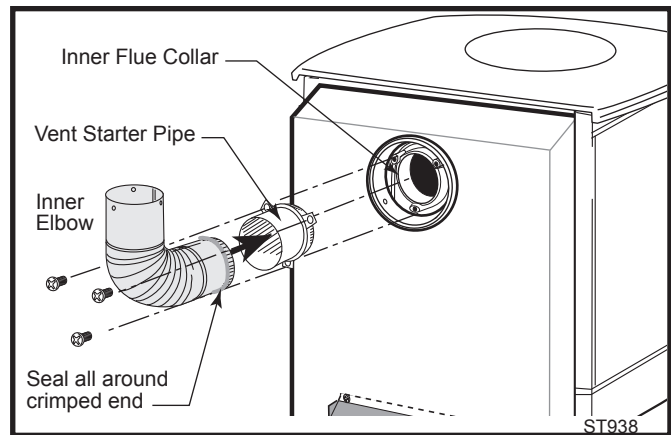

Fig. 21 Install inner starter pipe and inner elbow.
- Run a bead of sealant about 1/2" from end of the starter pipe and attach the assembly to the stove using three 1/4-20 x 3/8" Phillips screws provided in the parts bag. (Fig. 21)
- Run a bead of sealant beneath the pipe bead and attach to the stove using three 1/4-20 x 3/8" phillips screws provided in the parts bag. (Fig. 21)